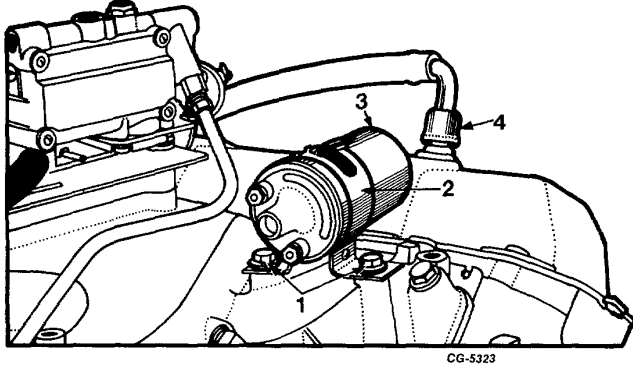

Fig. 30 Coil Removal
29. Remove coil and bracket from intake manifold, Figure 30. Also, remove flame arrestor and hose from left cylinder head cover.